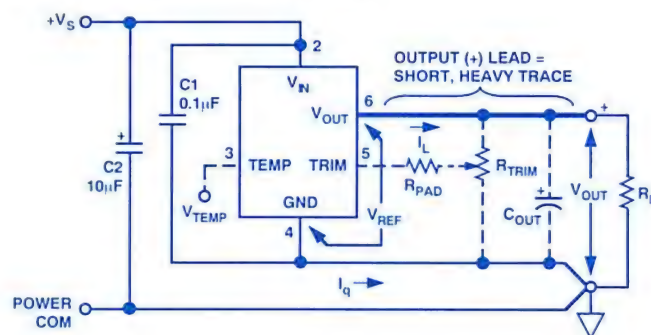

Figure 5. Standard positive-output three-terminal reference hookup (8 pin DIP pinout).
Figure 5 shows the standard basic pinout (input-2, output-6, ground-4) for +2.5-, +5-, and +10-volt IC references in 8-pin cans and DIPs. Additional pins may be used for important housekeeping details, such as optional trimming (e.g.,  $R_{TRIM}$  at pin 5) or providing a PTAT kelvin-scale thermometer output—an inherent bonus feature in bandgap devices (" $V_{TEMP}$ " at pin 3). In general, all references should use an adjacent RF-quality input bypass capacitor,  $C_1$ , sometimes paralleled with larger  $C_2$  for increased capacitance, to handle noisy sources and rapidly varying heavy loads. Some references may also allow (or require) an output bypass,  $C_{OUT}$ —or a noise-reduction capacitor connected to an internal point. Layouts should use a short, heavy (+) output conductor to minimize IR drops, while the (-) lead is less critical in this configuration, typically carrying  $\leq 1$  mA.
**Load Sensitivity:** Load sensitivity, or output impedance, is usually specified in  $\mu\text{V}/\text{mA}$  of load current (or m $\Omega$ ), for output source currents of 0-10 mA. A reasonable value at low frequencies is 100 m $\Omega$  or less (AD780, REF43, REF195), but without due care, external wiring drops can add a comparable amount of series impedance, producing additional error (see Figure 5). Errors depending on load current are minimized with short, heavy conductors on the (+) output, and return wires to reference and power common from the low end of the load. For the highest precision, buffer amplifiers and separate force-sense (or Kelvin) connections—like those provided in the AD588 & AD688—can guarantee a precise voltage at the point-of-loading. Several of the applications illustrate Kelvin sensing.